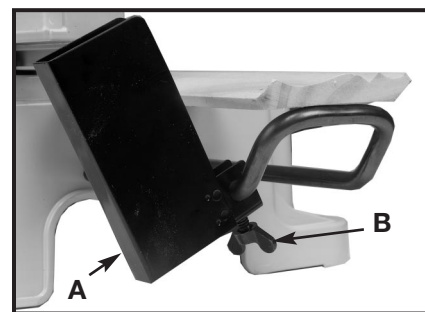

Fig. 30C
If the stop block (A) Fig. 30C is not needed, it can be moved out of the way so both extension wings can be used to support a long piece. To move the block, loosen the wing screw (B) Fig. 30C and move it out of the way as shown.